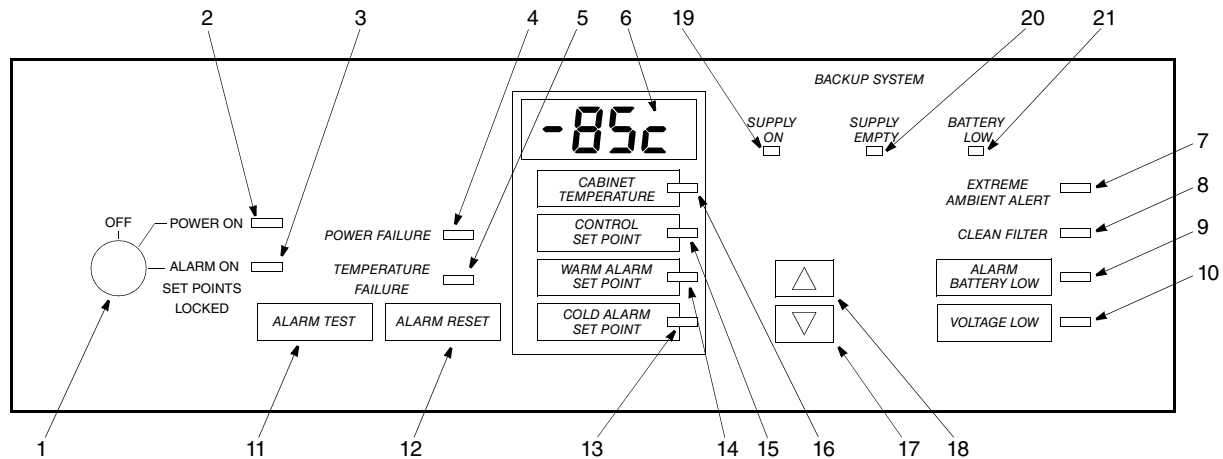

Figure 2. HERAfreeze TOP Control Panel with Optional Backup System
The Voltage Safeguard helps protect electrical equipment from damage by boosting low voltage automatically. On TOP models a panel light flashes to indicate when deficient line voltage is being corrected (see Figure 2 on page 4).
Before the initial start up, take some time to become familiar with the controls on your freezer. Figure 2 illustrates the HERAfreeze TOP Chest and Upright Freezer control panel.
Note: Figure 2 shows all possible functions. These functions vary depending on the model and options. You may not have all of the functions on your equipment. TOP models include the Set Points Locked feature and the Extreme Ambient Alert indicator light (8). The CO₂ or LN₂ Backup System lights (20, 21, 22) represent status indicators for a built-in CO₂ or LN₂ backup system, which is optional on all TOP models.
Refer to Section 5.1 and Figure 2 on page 4 as you complete the following procedures.